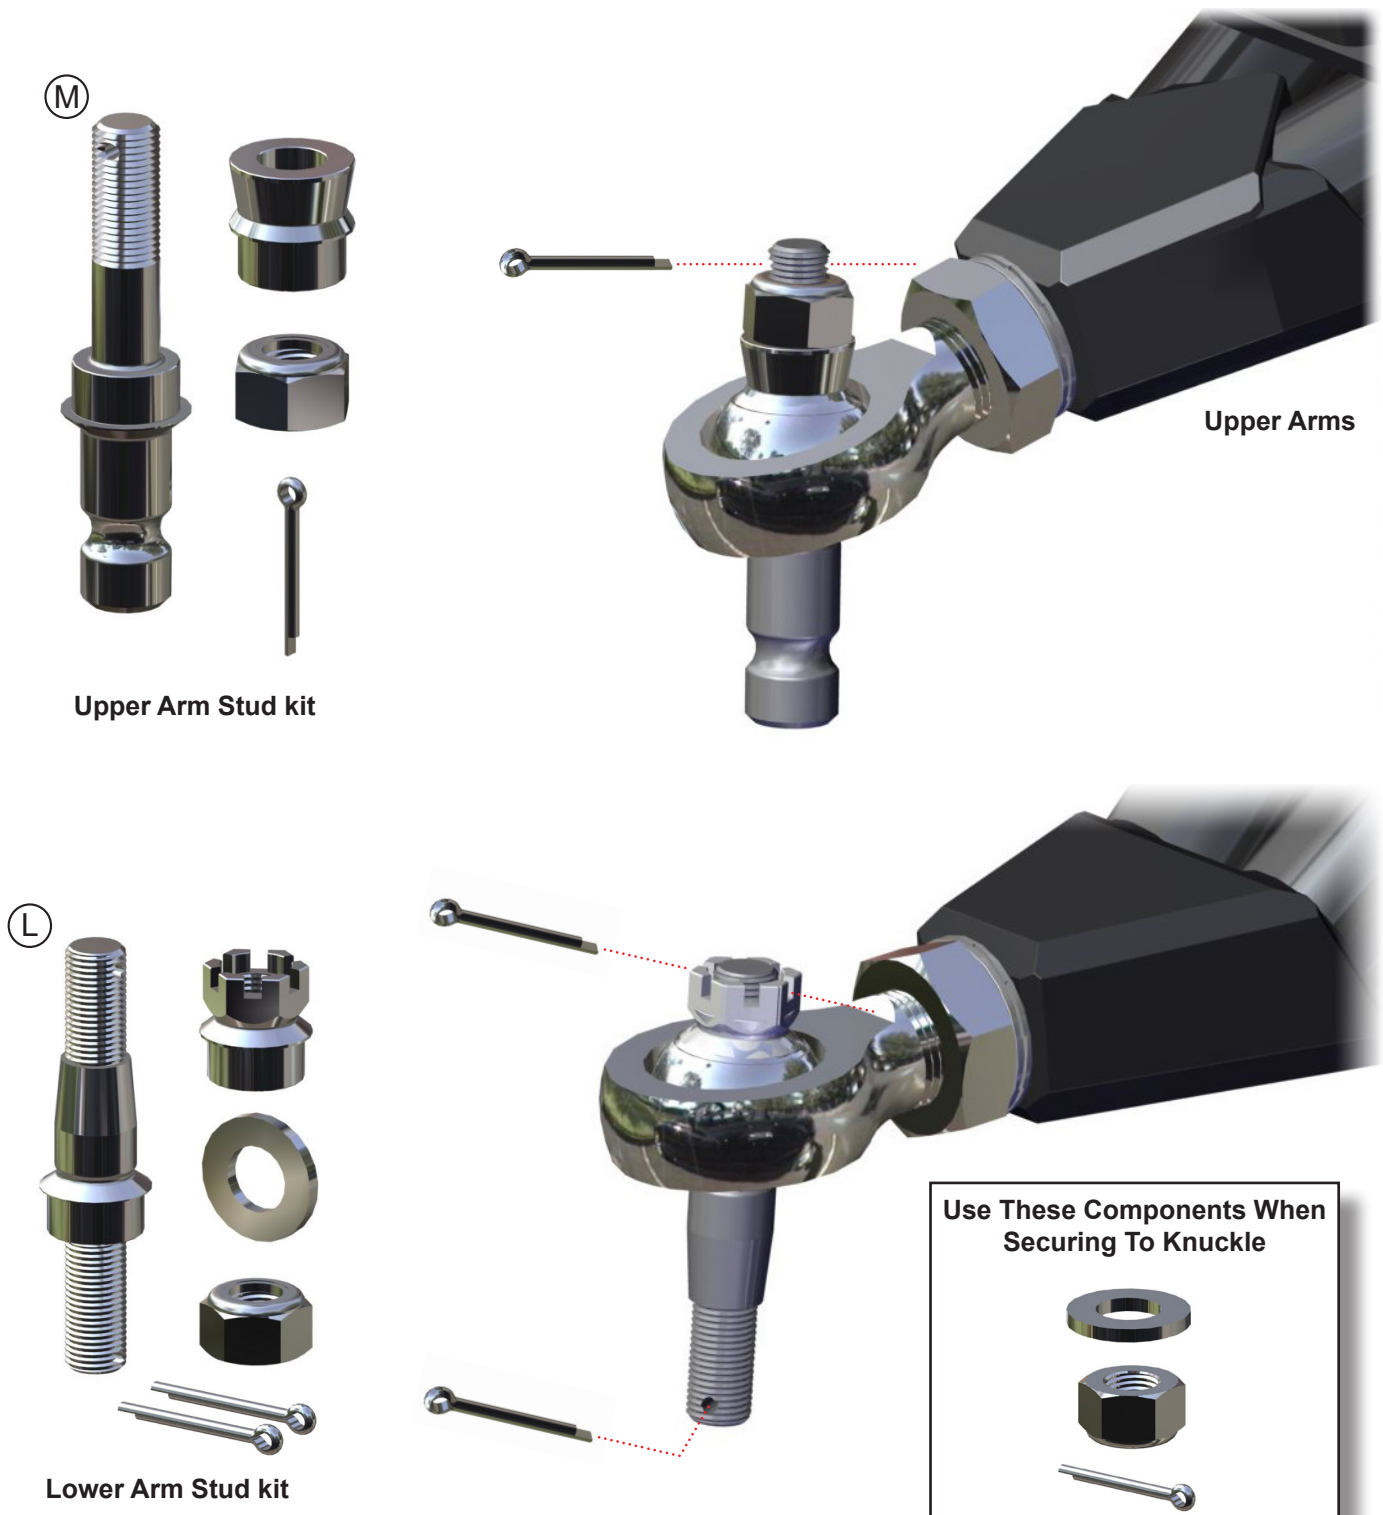

Fig.2
2. Before installing your new Arms, you will need to assemble a few things on them to get them ready to put on. To do that, install the provided Stud Kits into the Heims, tighten hardware and secure with Cotter Pins. Some hardware will be used later when securing the Heim to the knuckle as shown below in **Fig.2**.